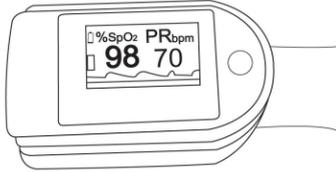

Figure 5 Put finger in position
1. The finger should be placed properly (see the attached illustration of this manual, Figure 5), or else it may cause inaccurate measurement.
Step 2. Install the battery compartment cover, shown as Figure 5 by sliding the cover back onto the unit. Follow the tabs on the inside of the cover.
- 2) Open the clip as shown in Figure 5.